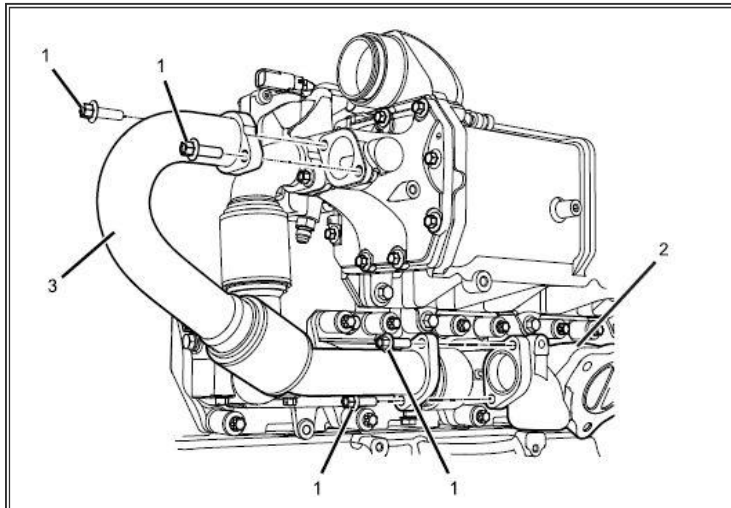

Figure 15: Outboard EGR Inlet Tube
31. Position two new EGR inlet tube gaskets, one to EGR valve and one to middle exhaust manifold (**Figure 15**, Item 2).
32. Install outboard EGR inlet tube and tighten bolts (**Figure 15**, Item 1) to 18 lb-ft (24 N-m).